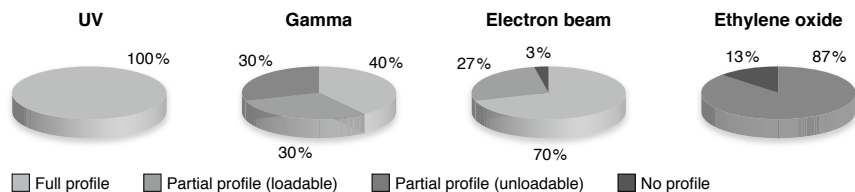

Figure 1: According to Shaw *et al.*, 2008, Comparison of the effects of sterilization techniques on subsequent DNA profiling. Int J Legal Med 122: 29-33.
NucleoSpin® Tissue XS is certified as forensic quality product. Consumables used in forensics need to be treated carefully to prevent DNA contamination. MACHEREY-NAGEL therefore has a stringently controlled production process to avoid DNA contamination of consumables. Further, MACHEREY-NAGEL uses ethylene oxide (EO) treatment to remove amplifiable DNA, which might still be introduced during the manufacturing process. MACHEREY-NAGEL products carrying the forensic quality seal, contain plastic materials that are EO treated. This means, DNA of any kind, which might still be introduced into plastic consumables during the production process, is inactivated by means of the treatment with ethylene oxide, in order to prevent the generation of accidental human profile by PCR amplification. Ethylene oxide treatment has been shown to be the method of choice to prevent DNA profiles due to DNA contamination (Shaw *et al.* 2008; Figure 1).